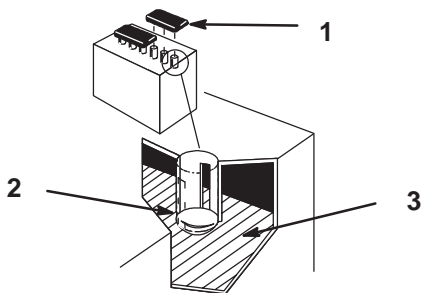

Figure 28
2. Remove the filler caps. If the electrolyte is not up to the lower part of the tube (Fig. 28), add the required amount of distilled water; refer to Adding Water to the Battery on page 29.
2. Remove the filler caps (Fig. 28).
3. Slowly pour distilled water into each battery cell until the level is up to the lower part of the tube (Fig. 28).